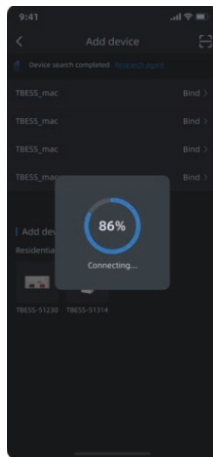

Figure 3
- 3) Figure 3: Bluetooth is **"Connecting"** and waiting for feedback on the connection result.